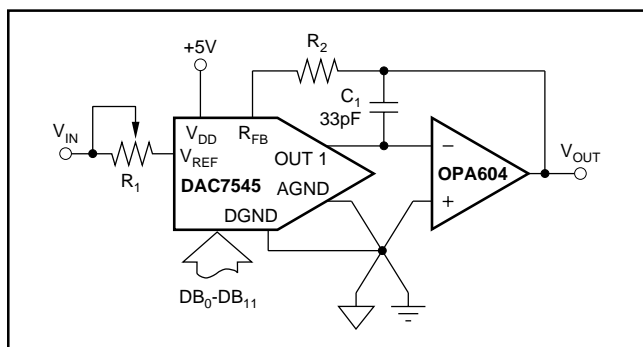

FIGURE 2. Unipolar Binary Operation.
| Gain Error (with internal R FB ) (2)  | J           | ±20                    | ±20   | ±25                    | ±25   | LSB                                    | DAC register loaded with FFF H . Gain error is adjustable using the circuits in Figures 2 and 3.  |
Figure 2 shows the DAC7545 connected for unipolar operation. The high-grade DAC7545 is specified for a 1LSB gain error, so gain adjust is typically not needed; however, the resistors shown are for adjusting full-scale errors. The value of  $R_1$  should be minimized to reduce the effects of mismatching temperature coefficients between the internal and external resistors. A range of adjustment of 1.5 times the desired range will be adequate. For example, for a DAC7545JP, the gain error is specified to be  $\pm 25$ LSB, therefore, a range of adjustment of  $\pm 37$ LSB will be adequate. Equation 1 results in a value of 458W for the potentiometer (use 500 $\Omega$ ).
The circuit of Figure 2 can be used with input voltages up to  $\pm 20$ V as long as the output amplifier is biased to handle the excursions. Table I represents the analog output for four codes into the DAC for Figure 2.